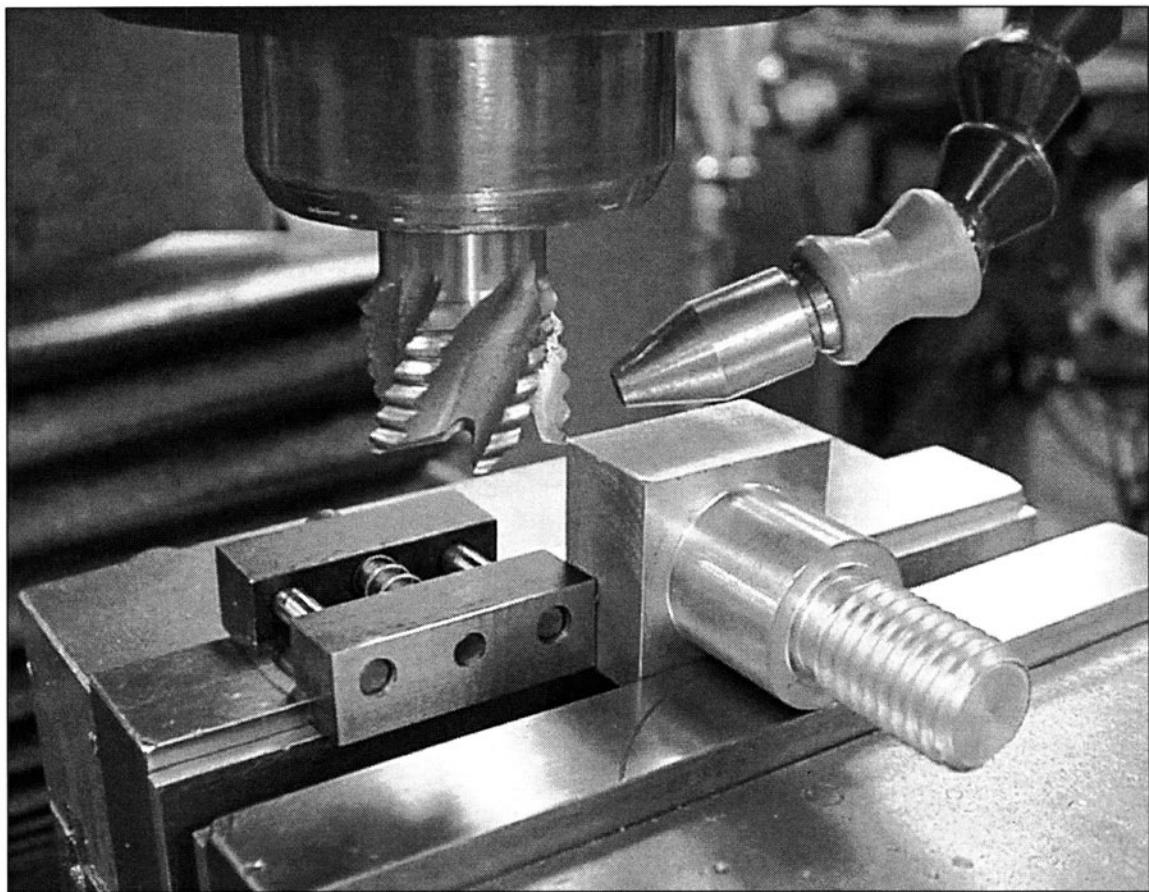

FIGURE 1-16 Stubby end mills are rigid and should be used whenever possible.
40. Use short, stubby end mills whenever possible. (See Fig. 1-16)